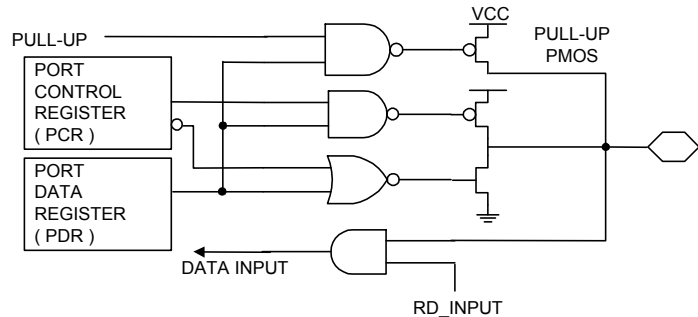

FIGURE 9-1 Port-A Block Diagram
Port-A contains pull-up MOS transistors controlled by software. When an I/O is used as input. The ON/OFF Of the pull-up MOS transistor will be controlled by port Data register (PA) and the pull-up MOS will be enabled With "1" for data bit and disable with "0" for data bit. The PULL control bit of PMCR controls the ON/OFF of All the pull-up MOS simultaneously. Please refer to FIGURE 9-1.
When programmer enables INTX and PT interrupts, PA0 trigger occur. INTX and PT interrupts will therefore happen sequentially. Please refer to FIGURE 9-1.